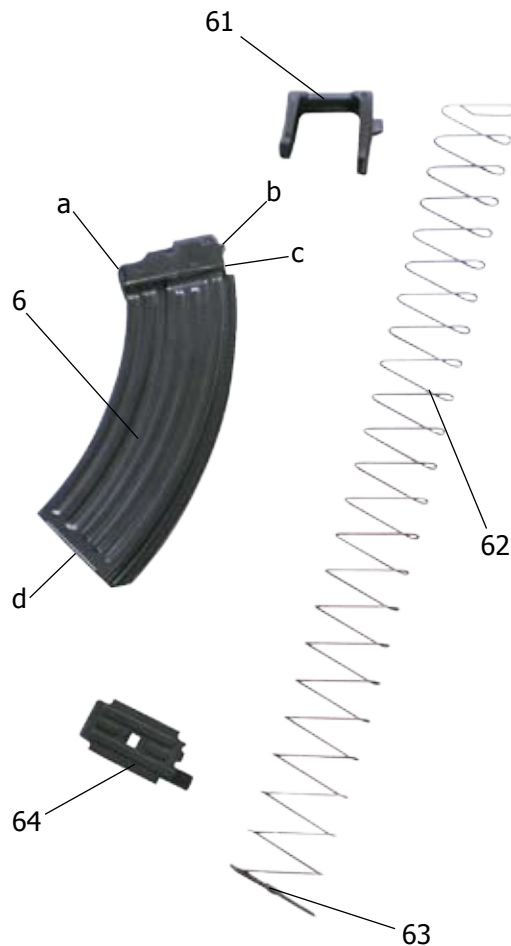

Fig. 23 Magazine /disassembled/
1. Magazine 6 (Fig. 23) is designed for continuous loading of the rifle with cartridges during firing. It is of an arched shape and takes 30 cartridges. It consists of magazine body 6, magazine follower 61 with magazine spring 62, magazine safety 63 and magazine floor plate 64.